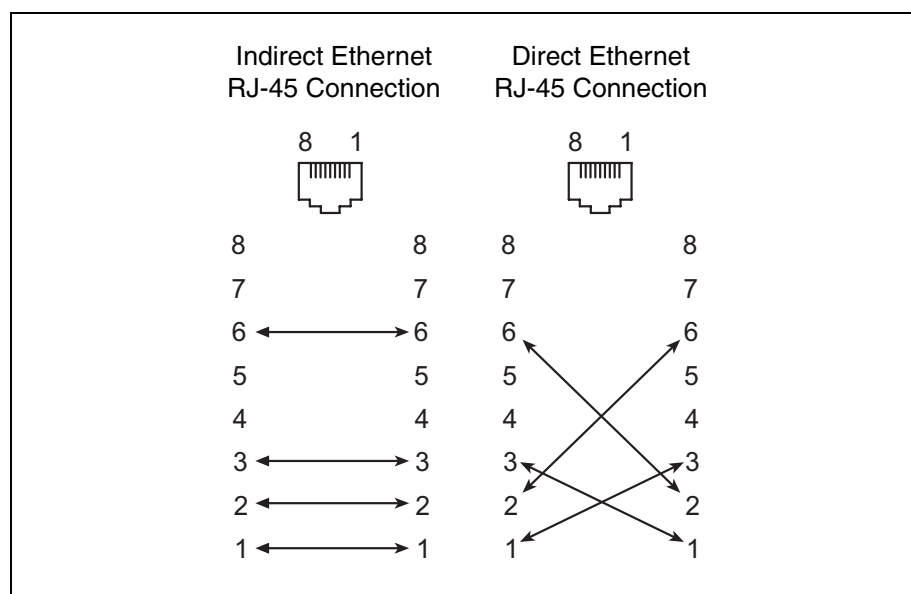

Figure 3-2. Ethernet Cable Connections
- Indirect Ethernet connection from the management workstation to the switch module RJ-45 Ethernet connector through an Ethernet switch or a hub. This requires a 10/100 Base-T straight cable as shown in Figure 3-2. With this method, you can manage the switch module with the EFCM BASIC application or Command Line Interface.
- Direct Ethernet connection from the management workstation to the switch module RJ-45 Ethernet connector. This requires a 10/100 Base-T cross-over cable as shown in Figure 3-2. With this method, you can manage the switch module with the EFCM BASIC application or Command Line Interface.